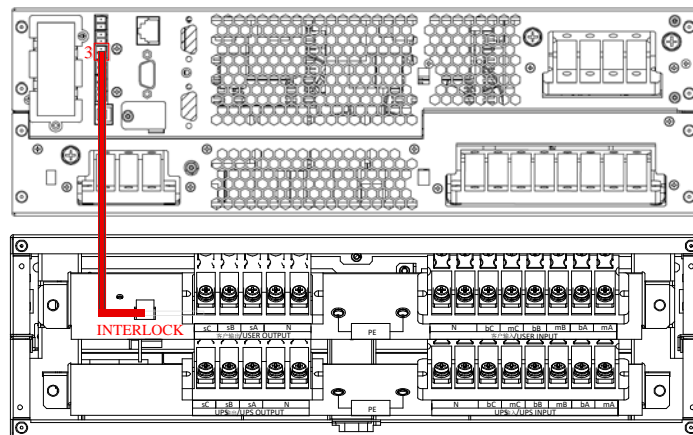

Figure 5-8 Ports connection
2. Use the maintenance bypass signal cable (accessory of POD) to connect Dry Contact Port 3 of the UPS with interlock port on the POD. See Figure 5-8.